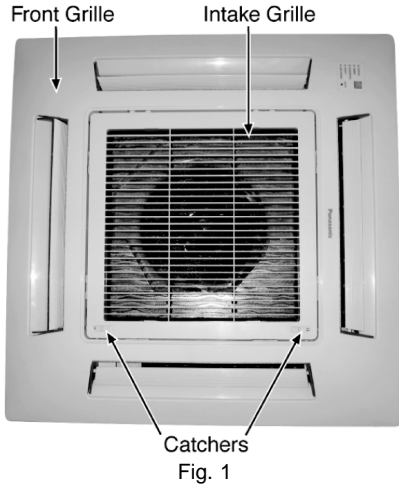

Fig. 7
2. Electronic Controller (Fig. 7).
7. Remove the Turbo Fan by removing the bolt (Fig. 7).